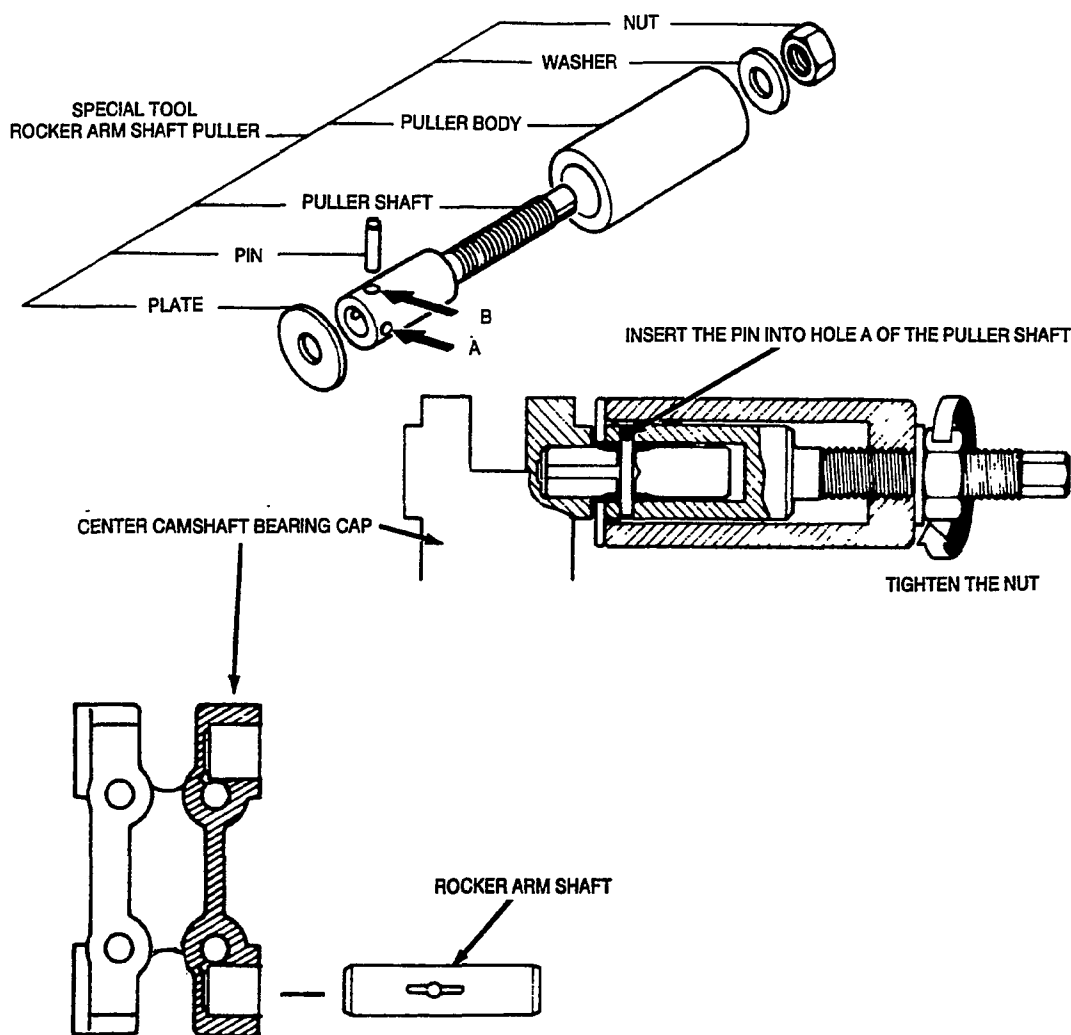

FIGURE 9-9. REMOVING ROCKER ARM SHAFTS
4. When removing the rocker arm shafts, use the special tool "Rocker Arm Shaft Puller" (Figure 9-9). The shafts are press fit into the center camshaft bearing cap.